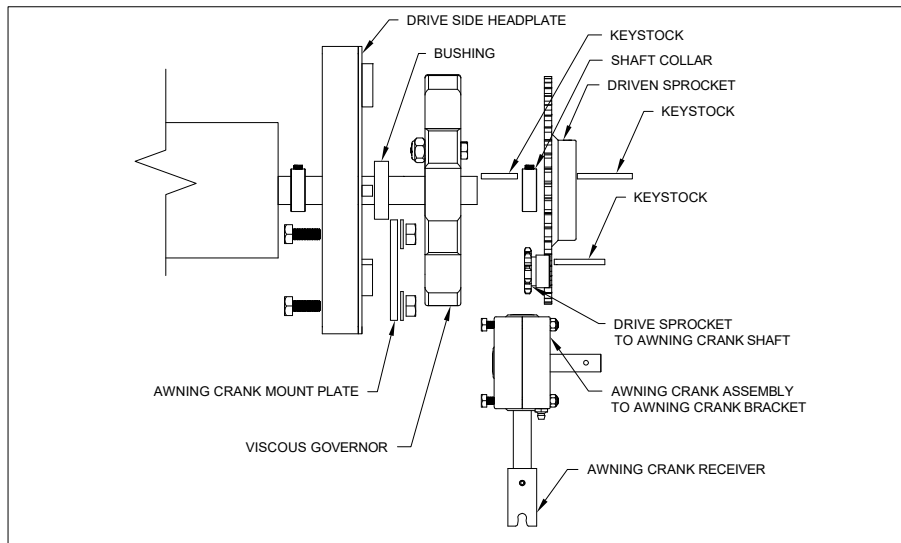

FIGURE 11
d. Assemble drive side headplate as shown in Figure 11 for optional awning crank.
- b. There is one stop bolt with aircraft locking nut shipped with the viscous governor. Install bolt to the viscous governor, as shown in Figure 11.